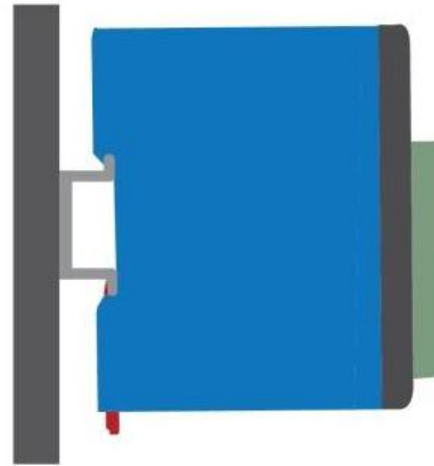

Figure 4.2
- 3 – Use a screw driver to push the lock upwards. (Figure 4.2)